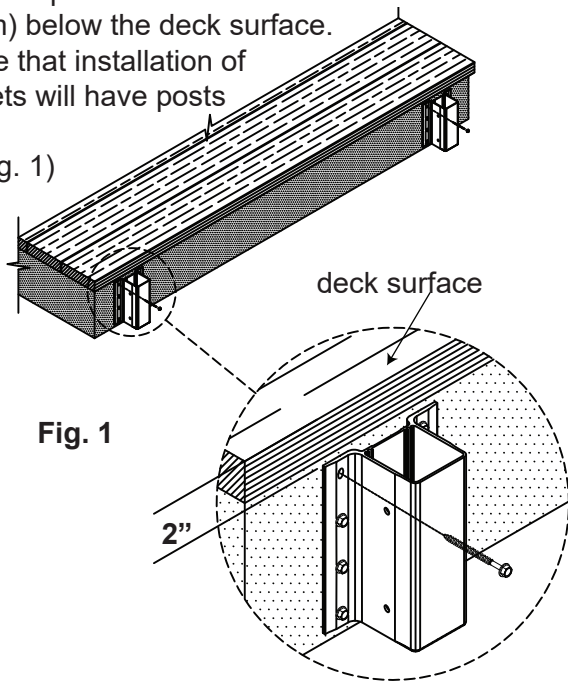

Fig. 1
Step 1: Install 2 ½" Vista fascia mount bracket to side of structure with the top of the bracket located 2" (50mm) below the deck surface. Ensure that installation of brackets will have posts plum. (see fig. 1)